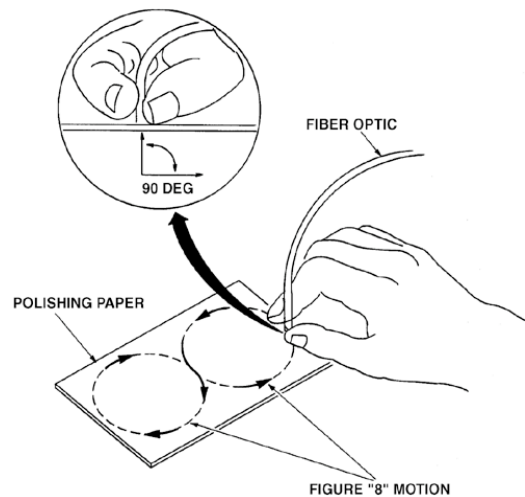

Figure 38. Pattern and positioning of the optical fiber during polishing.
11. Insert connector onto the polishing bushing. Hold assembly firmly between thumb and forefinger, then point ferrule toward the polishing paper and lightly polish, using an elongated figure-8 motion as shown in Figure 38. Continue until fiber end is even with the epoxy bead. Add drops of water as needed to keep the action smooth.